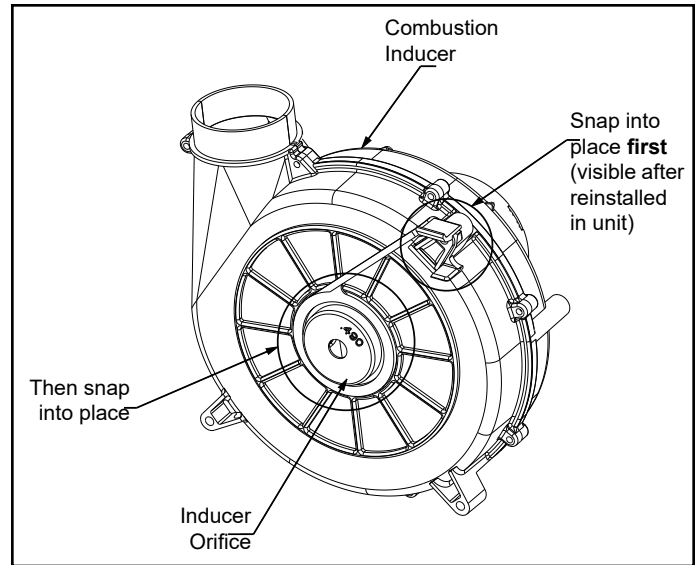

Figure 12.
10. If replacing the inducer with a new part, transfer inducer orifice from old inducer. Attach inducer orifice as shown in Figure 12.
Refer to Figure 12 to remove the combustion inducer orifice: